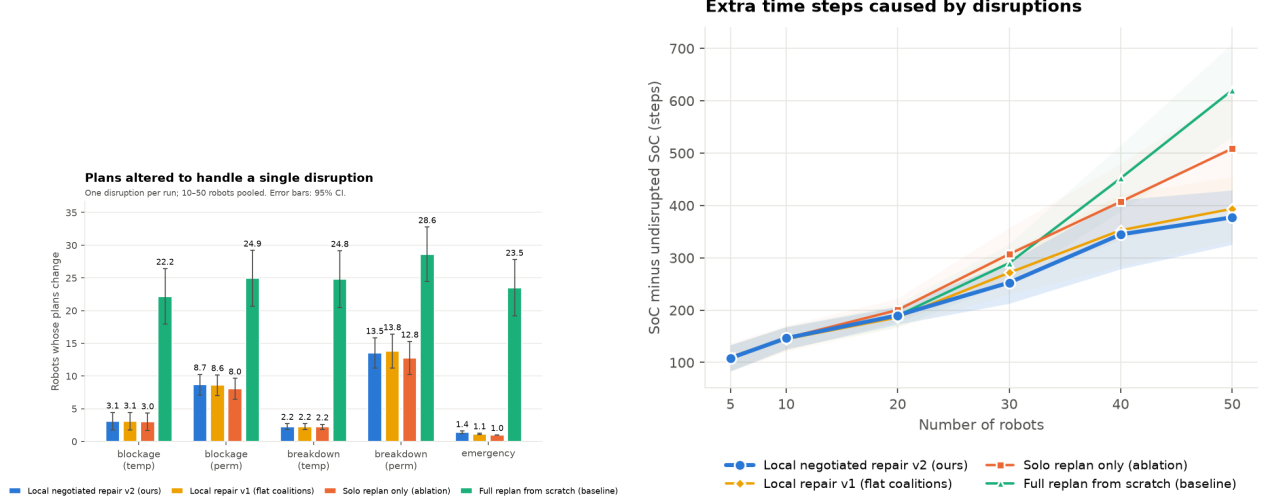

Figure 4: Left: robots whose plans change after a *single* disruption, per type. Right: steps lost to disruptions as the number of robots grows.
3. **One disruption, how many plans?** A temporary breakdown changes 2.2 plans (exactly the robots it blocks), a temporary blockage 3.1, and a permanent breakdown 13.5 (the broken robot’s tasks are handed to others). Re-planning everyone changes 22 to 29 (Figure 4, left).